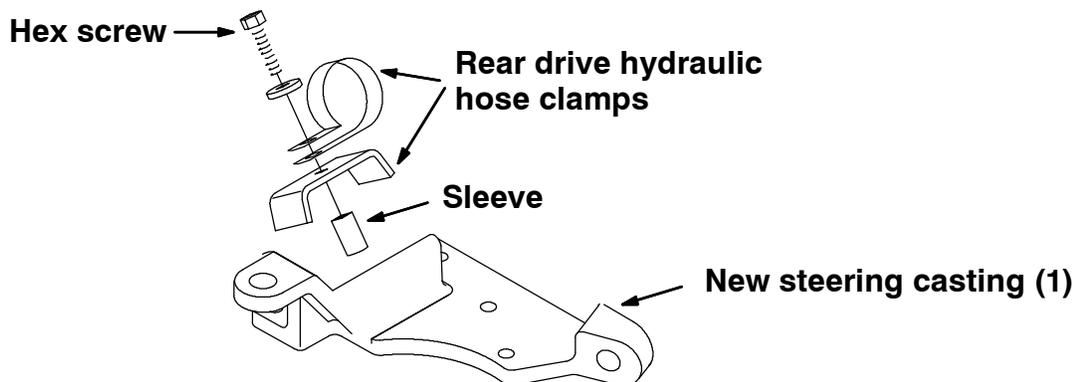

FIG. 11 - Drive Motor Hydraulic Hose Clamp
12. Install the new steering casting (1), hex screws (4), and flat washers (5). Tighten the hardware to 64 - 83 Nm (47 - 61 ft lb). (Refer to FIG. 11 and 14)
14. Install existing hose clamp, channel and sleeve on the new steering casting with existing hardware. (Refer to FIG. 11)